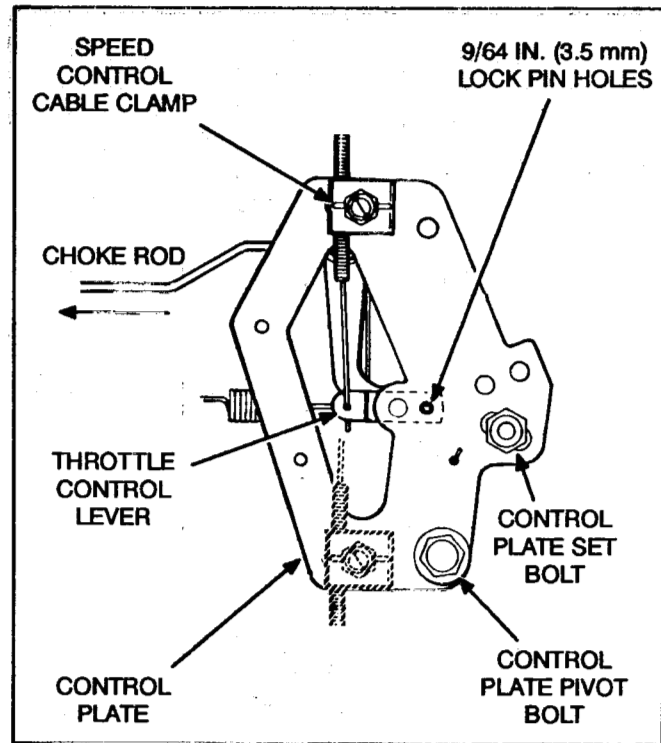

FIGURE 9-6. HIGH IDLE SPEED ADJUSTMENT
3. Attach the governor spring, move the throttle control lever to align the lock pin holes in the control plate and throttle control lever and insert a pin to lock the lever in place. See Figure 9-6.
High Idle Speed Adjustment: Refer to Figure 9-6.